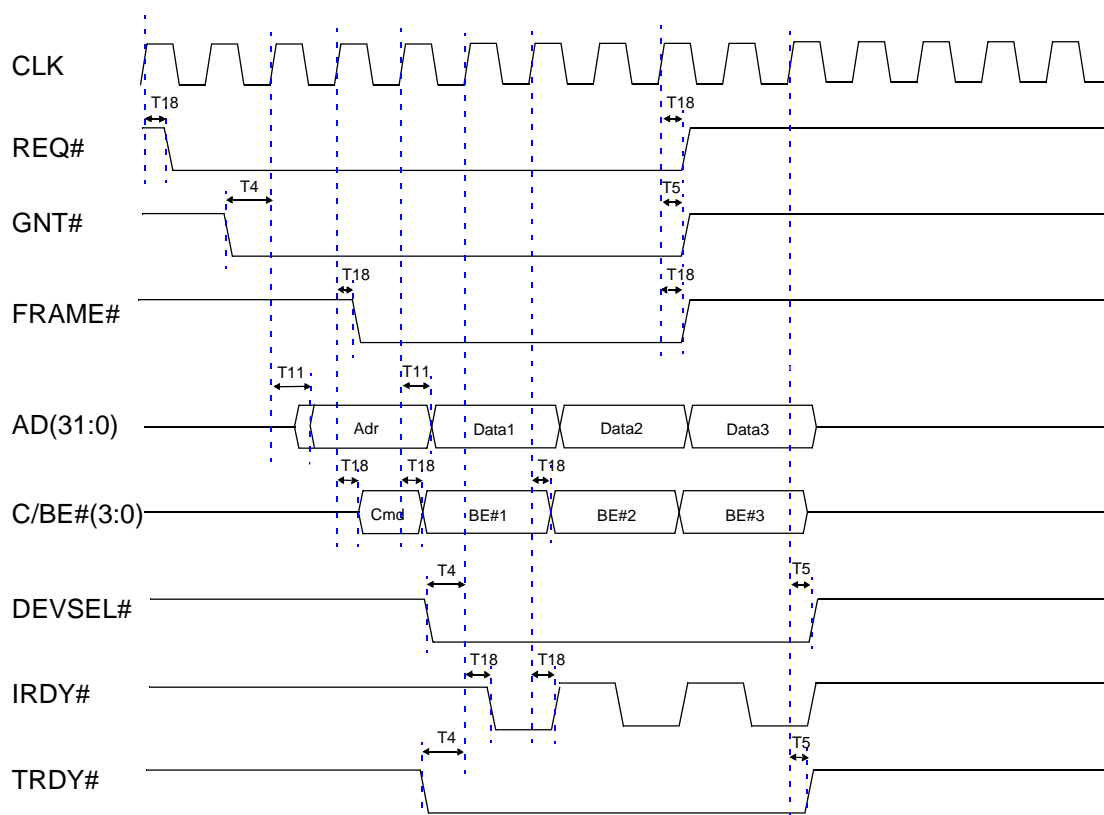

Figure 5-4. PCI Bus Master Operation
- PCI Bus Master Operation Timing, see Figure 5-4.